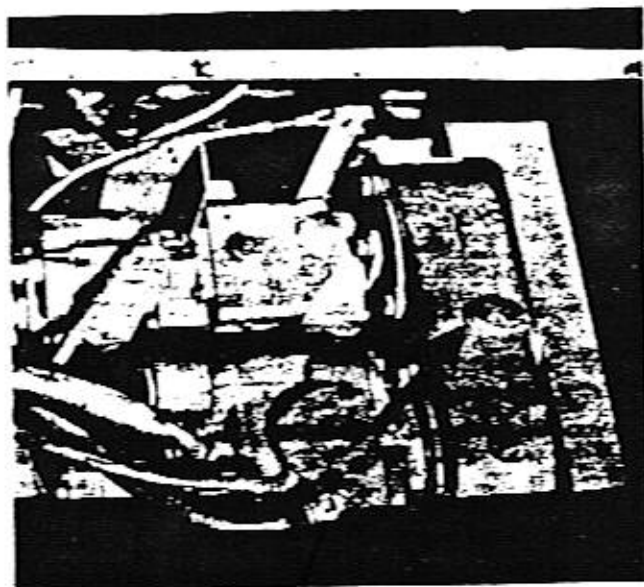

Figure 12-3
1. Remove the drain, level and fill plugs. The drain plug is located on the underside of the pump drive and the fill plug is located beside the breather. See Figure 12-3 and 12-4.